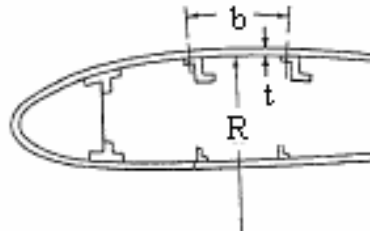

Figure 3:
- (b) For wing shown in figure 3, $R = 1250\text{mm}$, $t = 1.6\text{mm}$, $b = 150\text{mm}$ and rib spacing $L = 450\text{mm}$. Find the compressive stress in the skin at which buckling occurs Take $E = 70 \times 10^6 \text{ KPa}$. You can assume necessary values. [10+6]